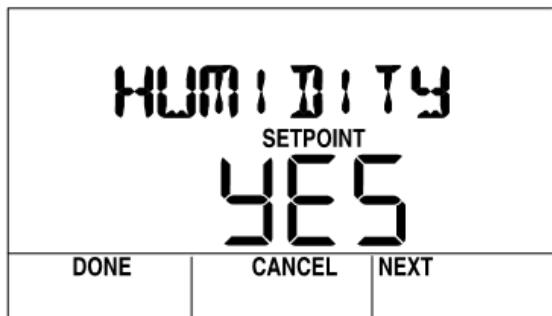

Fig. 31. Set View More parameter display.
- Clicking the **VIEW MORE** softkey displays the first configured parameter as shown Fig. 31, and the softkeys change to **DONE**, **CANCEL**, and **NEXT**.
- Clicking the **PARAMETERS** softkey displays the first configured category as shown in Fig. 31, and the softkeys change to **DONE**, **EDIT**, and **NEXT**.